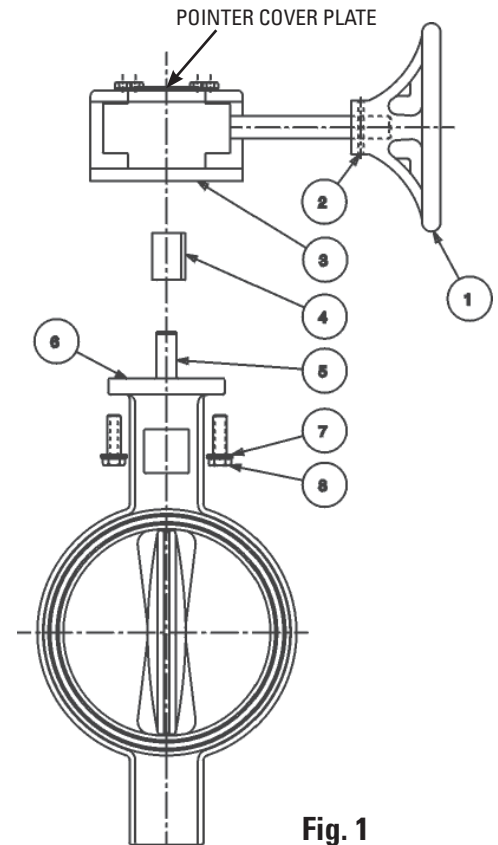
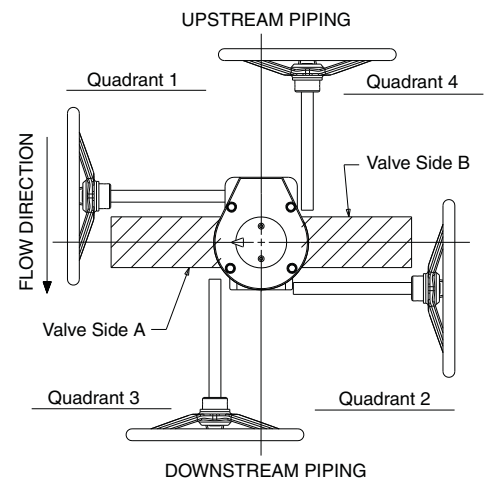

Fig. 1
Fig. 2
1. Install handwheel (1) onto gear operator shaft and secure with pin (2). (If not already attached) See Fig. 1.
2. Turn the handwheel (1) clockwise until in full SHUT position.
4. Assure valve is in full SHUT position, turn valve stem (5) to close disc if necessary.
5. Assure both mounting base of gear operator (3) and valve top flange (6) are clean and dry.
6. Determine desired handwheel position in reference to the piping system and compare with Fig. 2. There are 2 mounting positions for the gear operator onto the valve and the valve can be mounted in either direction into the piping system. This will allow handwheel to be positioned in any of the 4 quadrants as shown in Fig. 2. Note that all Fire Protection and 10" and 12" size commercial valves only allow for handwheel positioning in quadrants 1 and 2.
- Insert adapter bushing (4) into gear operator (3) bore aligning bushing key with desired keyway. Keyway selection will determine handwheel orientation position. (Note that Fire Protection model adapter bushings differ from illustration and only have 1 keyway position).
- Align adapter bushing (4) bore with valve stem (5) and slide gear operator assembly onto valve stem (5) until seated with valve top flange.
- Align gear operator (3) bore with valve stem (5) and align with desired keyway. Keyway selection will determine handwheel orientation position.
- Slide gear operator assembly onto valve stem (5) until seated with valve top flange.
8. Secure gear operator (3) to valve top flange (6) using supplied* fasteners (7 & 8).